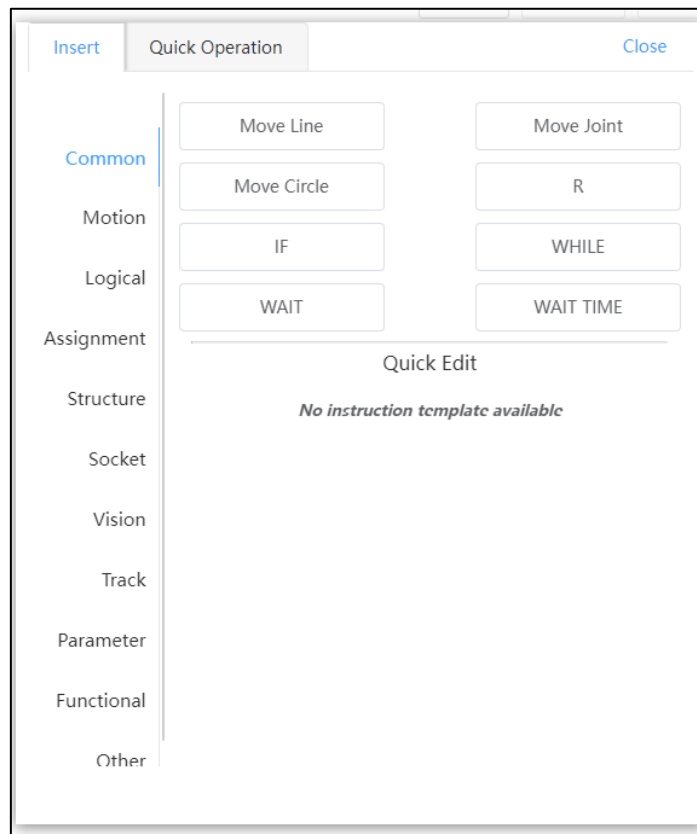

Fig. 4.13 Instruction Selection Window
2. Click on "Insert Instruction" in the program operation interface to enter the instruction selection interface, as shown in Fig. 4.13 → select the desired motion instruction (e.g. Move Line) to enter the motion instruction editing interface.